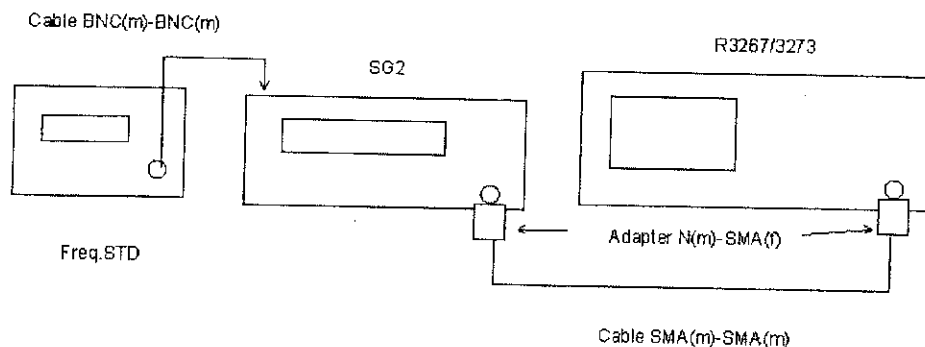

Figure 3-12 Setup of a Frequency Readout Accuracy and Frequency Counter Marker Test
1. Connect equipment as shown in Figure 3-12.